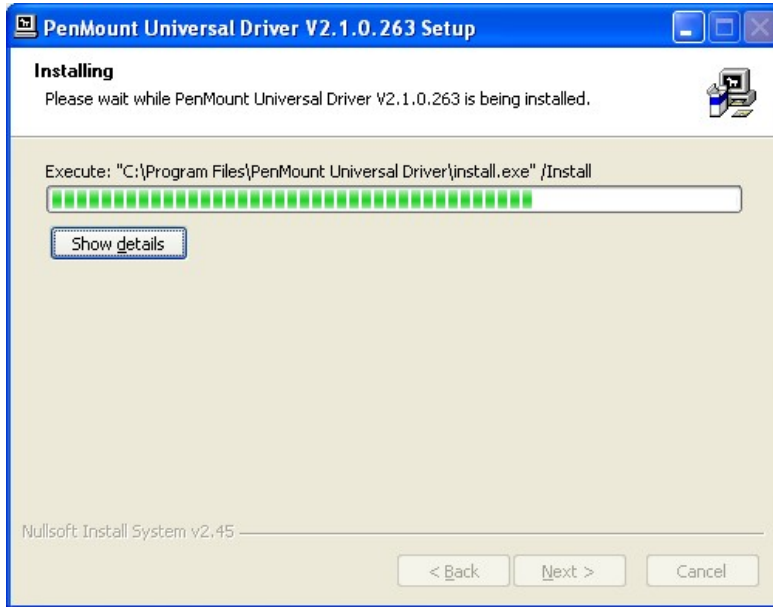

Figure 5-25: Touch Screen Driver Installation Screen
Step 10: The **Install** screen appears and displays the progress of the installation (**Figure 5-25**).